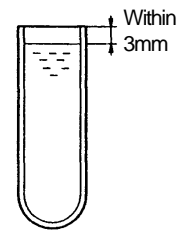
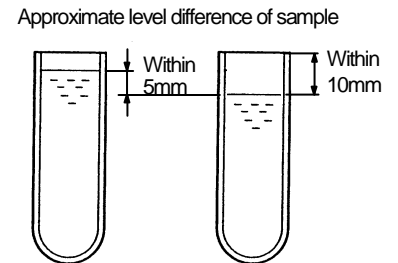

Fig. 3-3 Filling tube for swing rotor (RCF: 100,000 xg and over)
Fig. 3-4 Filling tube for swing rotor (RCF: 100,000 xg and less)
- 2) Balance the tubes (that are symmetrically arranged) within 0.2g. If using the CS150NX and CS-FNX/CS-GX II/CS-GXL/CS-GX series centrifuges, balance tubes according to Fig. 3-3 and Fig. 3-4.